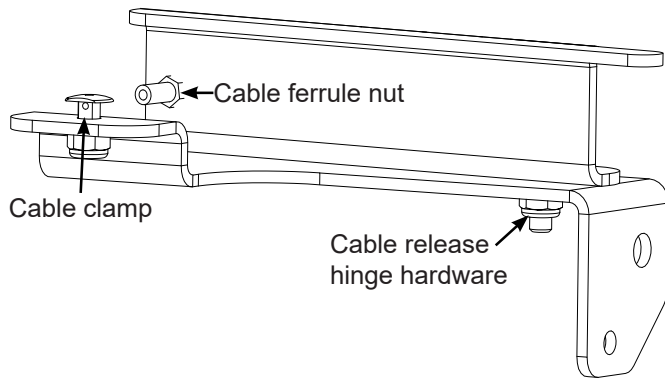

Figure 4. Cable Release Bracket Assembly
6. Assemble cable release bracket (Figure 4).